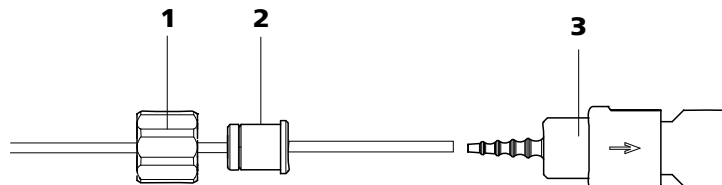

Figure 26 Install pump tubing connection with filter
- **Case A:** a 6.2744.180 pump tubing connection **with filter** (see Figure 26, page 48) or